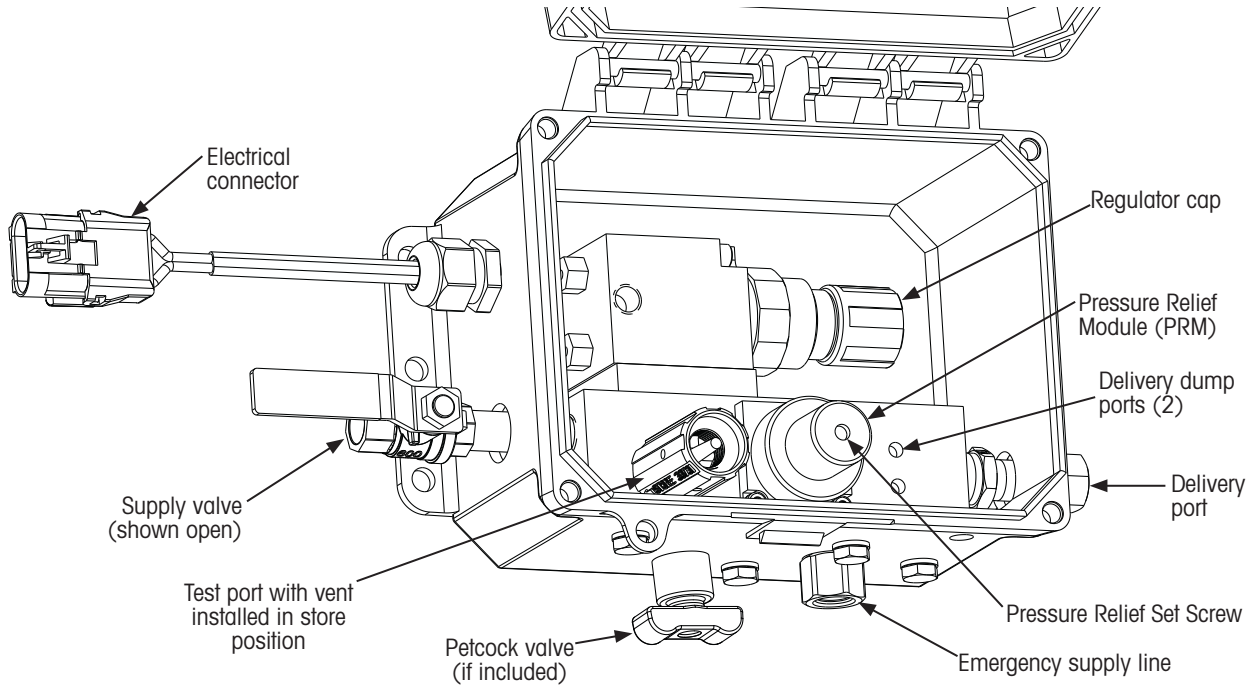
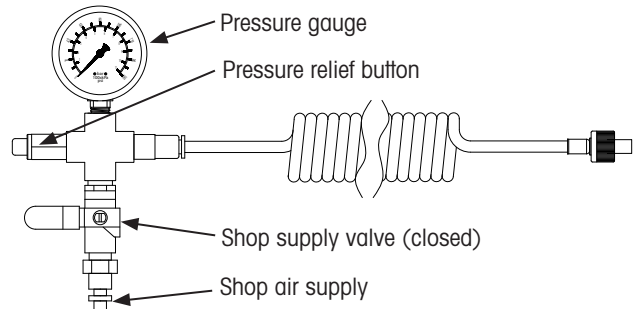

Figure 52: Setting TIREMAAX® PRO target and deflation pressure adjustment
Figure 53: TIREMAAX PRO target gauge VS-32331
NOTE: The TIREMAAX PRO target gauge (Figure 53 on page 50) can not be used in place of the CP target gauge. Fittings are not compatible.
- TIREMAAX PRO target gauge (Figure 53) or equivalent.
Follow this procedure to check cold target pressures (Figure 52) for TIREMAAX PRO systems.
IMPORTANT: The TIREMAAX PRO target gauge (Figure 53) is required for this procedure. The PRO regulator does not self exhaust which could result in false readings.
3. **Open** controller cover, **remove** test port vent, if included, and **connect** target gauge (Figure 53) to the test port (Figure 52).
4. **Charge** tank by connecting clean, dry **shop air supply** to emergency brake and target gauge. **Once charged, disconnect** from emergency brake gladhand (Figure 53).
IMPORTANT: Should the inflation pressure be greater than the deflation pressure, the system will continuously exhaust pressure to maintain the lower delivery pressure. If the inflation pressure is to be increased during this procedure, **FIRST** increase the deflation pressure at the PRM (Figure 52) using Step 8 of ADJUST PRO DEFLATION PRESSURE.
- ii. **Use** pressure relief button on target gauge (Figure 53) to **lower** delivery pressure at **least 5 psi below the desired inflation pressure** setting. Close valve.
2. **Close** controller supply valve at the controller (Figure 52 on page 50).
3. **Connect** clean, dry shop air supply to target gauge using the 1/4 inch quick connect (Figure 53 on page 50). An air supply **at least** 15 psi above cold inflation pressure is required.
8. **If adjustment is needed, use** 1/8 inch Allen wrench to **adjust** pressure relief set screw (Figure 52). (A quarter turn is approximately 5 psi.)